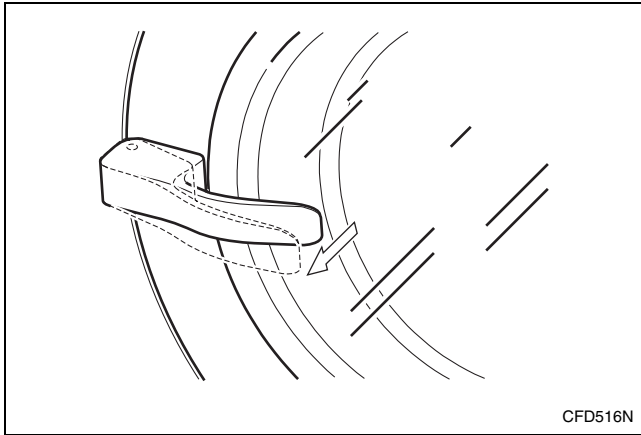

Figure 7
2. Pull door handle away from machine to open door. On some models it may be necessary to push handle's button. Refer to *Figure 7*.